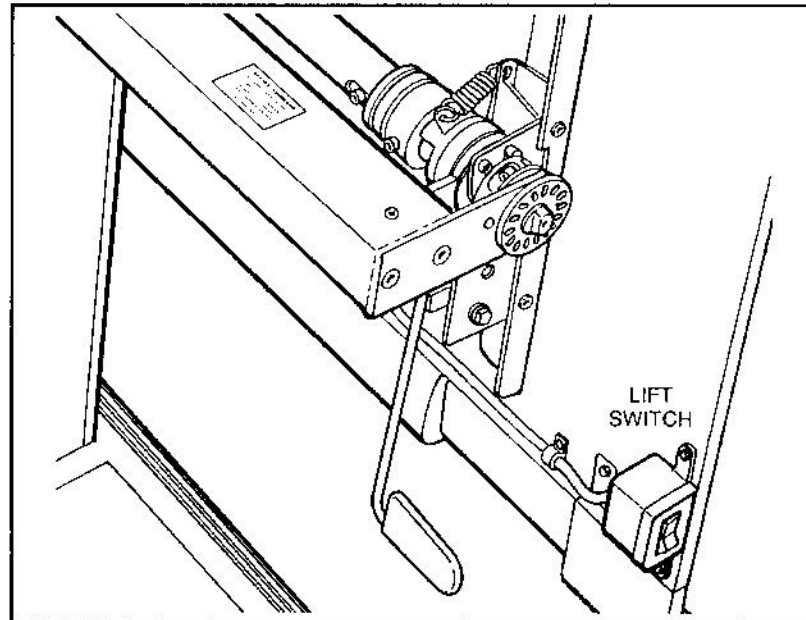

Fig 6. Attaching the Lift Switch
4. Fasten the lift switch box onto the back of the tablet, left side frame, near the bottom (see Figure 6). Two threaded holes are provided that position the switch button approximately even with the left edge of the tablet. Use two #8 x 1/4" screws from the hardware bag.